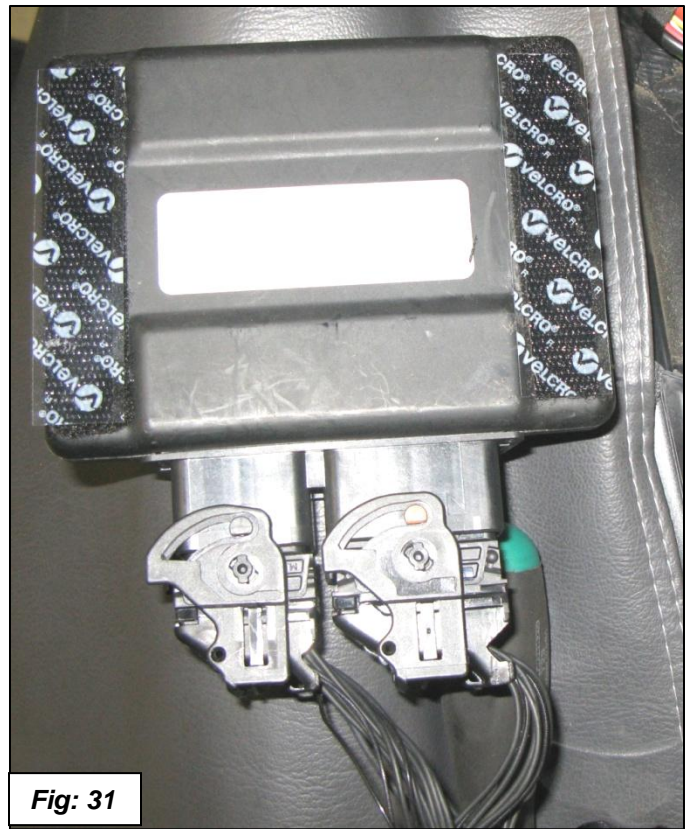

Fig: 31
30. Attach Velcro strips using the double stick tape to the back of the DPT ECU. Attach the hard hook side of the Velcro to the box after cleaning the surface first. See figure 31.